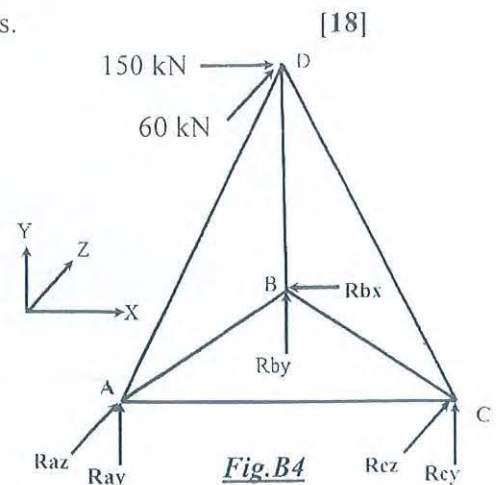

Fig.B4
4. Analyze the space truss shown in *Fig.B4* to determine the reactions and member force of *CD*. [Nodal Coordinates (m) are A(0,0,0), B(10,0,15), C(20,0,0) and D(10,20,10)]. [10]